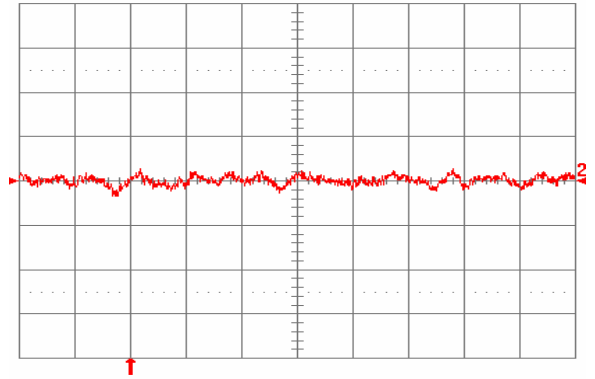

**Fig. 1.0V.14:** Test Setup for measuring input reflected ripple currents,  $i_c$  and  $i_s$ .
**Fig. 1.0V.1:** Available load current vs. ambient air temperature and airflow rates for SQ48T15010 converter with D height pins mounted vertically with  $V_{in} = 48\text{ V}$ , air flowing from pin 3 to pin 1, and maximum FET temperature  $\leq 120\text{ }^\circ\text{C}$ .
**Fig. 1.0V.2:** Available load current vs. ambient air temperature and airflow rates for SQ48T15010 converter with D height pins mounted horizontally with  $V_{in} = 48\text{ V}$ , air flowing from pin 3 to pin 1, and maximum FET temperature  $\leq 120\text{ }^\circ\text{C}$ .
**Fig. 1.0V.3:** Available load current vs. ambient air temperature and airflow rates for SQ48S15010 converter mounted vertically with  $V_{in} = 48\text{ V}$ , air flowing from pin 3 to pin 1, and maximum FET temperature  $\leq 120\text{ }^{\circ}\text{C}$ .
**Fig. 1.0V.4:** Available load current vs. ambient air temperature and airflow rates for SQ48S15010 converter mounted horizontally with  $V_{in} = 48\text{ V}$ , air flowing from pin 3 to pin 1, and maximum FET temperature  $\leq 120\text{ }^{\circ}\text{C}$ .
**Fig. 1.0V.5:** Efficiency vs. load current and input voltage for SQ48T/S15010 converter mounted vertically with air flowing from pin 3 to pin 1 at a rate of 300 LFM (1.5 m/s) and  $T_a = 25\text{ }^{\circ}\text{C}$ .
**Fig. 1.0V.6:** Efficiency vs. load current and ambient temperature for SQ48T/S15010 converter mounted vertically with  $V_{in} = 48\text{ V}$  and air flowing from pin 3 to pin 1 at a rate of 200 LFM (1.0 m/s).
**Fig. 1.0V.7:** Power dissipation vs. load current and input voltage for SQ48T/S15010 converter mounted vertically with air flowing from pin 3 to pin 1 at a rate of 300 LFM (1.5 m/s) and  $T_a = 25\text{ }^\circ\text{C}$ .
**Fig. 1.0V.8:** Power dissipation vs. load current and ambient temperature for SQ48T/S15010 converter mounted vertically with  $V_{in} = 48\text{ V}$  and air flowing from pin 3 to pin 1 at a rate of 200 LFM (1.0 m/s).
**Fig. 1.0V.9:** Turn-on transient at full rated load current (resistive) with no output capacitor at  $V_{in} = 48\text{ V}$ , triggered via ON/OFF pin. Top trace: ON/OFF signal (5 V/div.). Bottom trace: output voltage (0.5 V/div.). Time scale: 2 ms/div.
**Fig. 1.0V.10:** Turn-on transient at full rated load current (resistive) plus 10,000  $\mu\text{F}$  at  $V_{in} = 48\text{ V}$ , triggered via ON/OFF pin. Top trace: ON/OFF signal (5 V/div.). Bottom trace: output voltage (0.5 V/div.). Time scale: 2 ms/div.
**Fig. 1.0V.11:** Output voltage response to load current step-change (3.75 A – 7.5 A – 3.75 A) at  $V_{in} = 48$  V. Top trace: output voltage (100 mV/div.). Bottom trace: load current (5 A/div.). Current slew rate: 0.1 A/ $\mu$ s.  $C_o = 1$   $\mu$ F ceramic. Time scale: 0.2 ms/div.
**Fig. 1.0V.12:** Output voltage response to load current step-change (3.75 A – 7.5 A – 3.75 A) at  $V_{in} = 48$  V. Top trace: output voltage (100 mV/div.). Bottom trace: load current (5 A/div.). Current slew rate: 5 A/ $\mu$ s.  $C_o = 450$   $\mu$ F tantalum + 1  $\mu$ F ceramic. Time scale: 0.2 ms/div.
**Fig. 1.0V.13:** Output voltage ripple (20 mV/div.) at full rated load current into a resistive load with  $C_o = 10$   $\mu$ F tantalum + 1  $\mu$ F ceramic and  $V_{in} = 48$  V. Time scale: 1  $\mu$ s/div.
**Fig. 1.0V.15:** Input reflected ripple current,  $i_c$  (100 mA/div.), measured at input terminals at full rated load current and  $V_{in} = 48$  V. Refer to Fig. 1.0V.14 for test setup. Time scale: 1  $\mu$ s/div.
**Fig. 1.0V.16:** Input reflected ripple current,  $i_s$  (10 mA/div.), measured through 10  $\mu$ H at the source at full rated load current and  $V_{in} = 48$  V. Refer to Fig. 1.0V.14 for test setup. Time scale: 1  $\mu$ s/div.
**Fig. 1.0V.17:** Output voltage vs. load current showing current limit point and converter shutdown point. Input voltage has almost no effect on current limit characteristic.
**Fig. 1.0V.18:** Load current (top trace, 20 A/div., 20 ms/div.) into a 10  $m\Omega$  short circuit during restart, at  $V_{in} = 48$  V. Bottom trace (20 A/div., 1 ms/div.) is an expansion of the on-time portion of the top trace.